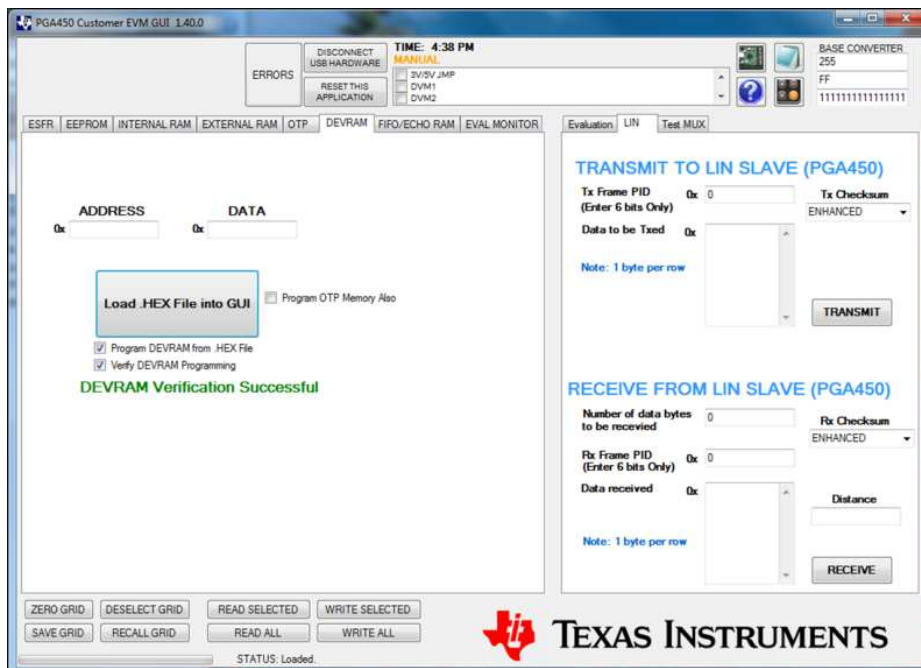

Figure 7. Loading .HEX File if OTP is Programmed to Jump to DEVRAM
- Step 4. Load the program into the DEVRAM by clicking *Load .HEX File into GUI* from the DEVRAM tab. If the OTP status was *PROGRAMMED to JUMP to DEVRAM* in the previous step, then checking the *PROGRAM OTP Memory Also* box is not required (as shown in Figure 7). If the OTP status was *EMPTY*, then this box must be checked and 8 V must be supplied on the VPROG OTP pin. A provision on the EVM provides 8 V to the VPROG_OTP pin through jumper settings.